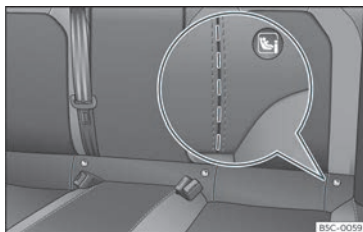

Fig. 31 Rear seat: die cut slots to access the ISO-FIX / iSize securing rings.
rings are secured to the seat frame and, in others, they are secured to the rear floor. The “ISOFIX” rings are located between the rear seat backrest and the seat cushioning >>> **Fig. 31**. The Top Tether rings are located on the rear part of the backrests of the rear
- Open the cut-out section behind the marked grooves to access the retaining rings >>> **Fig. 31**.